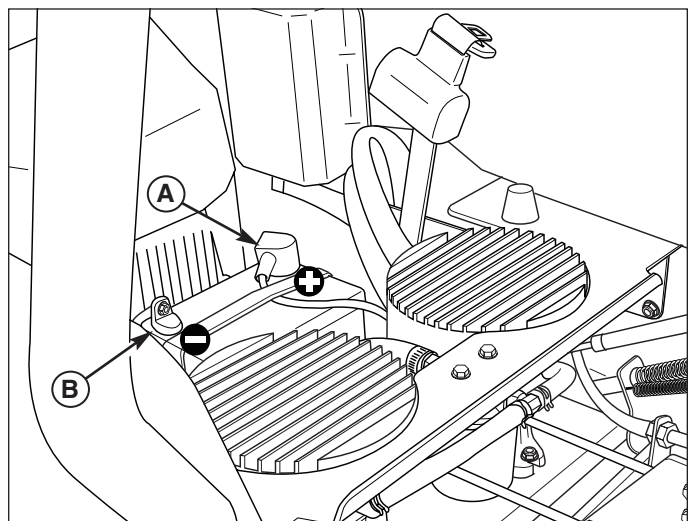

Figure 3. Connect the Battery
1. Connect the red positive battery cable (B, Figure 3) to the positive battery post.
2. Connect the black negative battery cable (A) to the negative battery post.